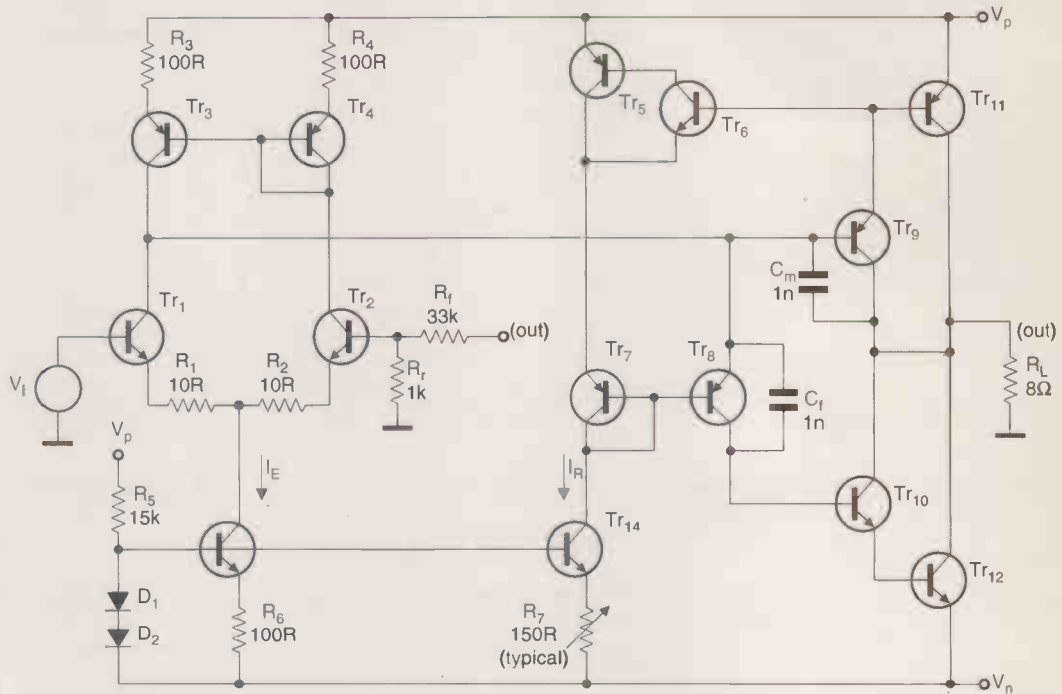

Fig. 2. Complete amplifier, as used for the PSpice simulations discussed in the article.
Figure 2 shows the complete amplifier as used for our PSpice simulations. Adding  $Tr_5$  simplifies equation (3) to,
For a 40W/8Ω design of the common-emitter power amplifier of Fig. 2, the supply voltages are:  $V_p=25V$  and  $V_n=-25V$ . For  $R_6=100\Omega$ , giving an emitter current of around 6mA, and a Miller capacitor of 1nF, the calculated slew-rate is 6V/μs. The corresponding full-power bandwidth is approximately 40kHz.
We simulated the circuit of Fig. 2 using PSpice. By adjusting  $R_7$  the quiescent current of the power transistors  $Tr_{11}$  and  $Tr_{12}$  was set to 100mA.